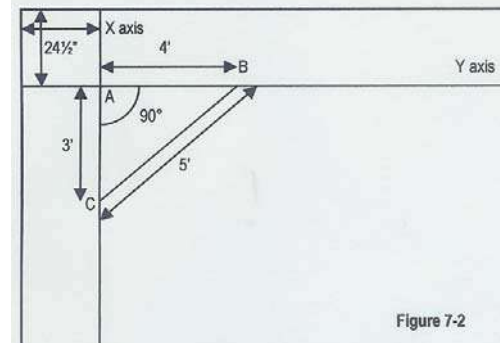

Figure 7-2
B. Square Layout from the Wall (See Figure 7-2)